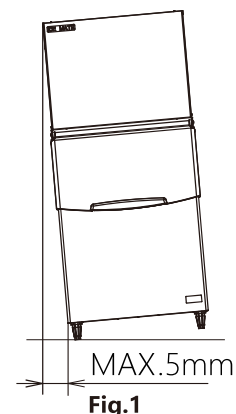

Fig.1
*Level the dispenser unit/ice storage bin in both the left-to-right and front-to-rear directions. If using an ice storage bin, adjust the ice storage bin legs to level. See Fig. 1.